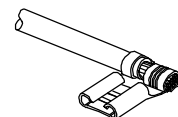

Figure 2
Select an appropriate terminal, contact, or splice for the tool. Strip the wire to the proper length (determine strip length by adding 0.79 [0.031] ( $\frac{1}{32}$ ) to the length of the wire barrel). Refer to Figure 2.
1. Center the wire barrel in the appropriate wire barrel crimper. Refer to Figure 2.
1. Center the insulation barrel in the appropriate insulation barrel crimper. Refer to Figure 2.